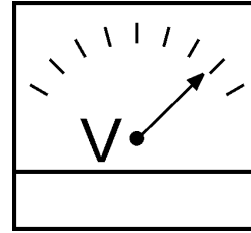

Figure 49. Voltmeter
8. The generator's AC-voltmeter (Figure 49) will display the generator's output in **VOLTS**.